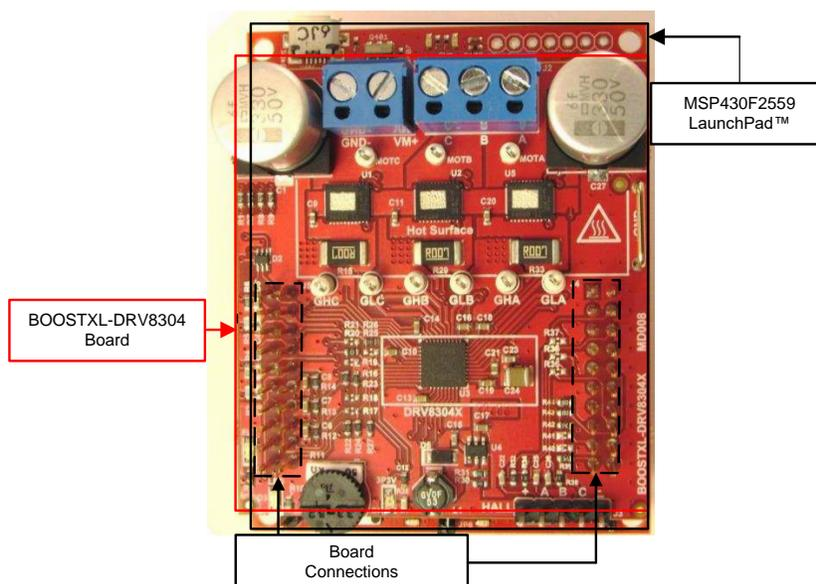

Figure 1. LaunchPad™ and BOOSTXL-DRV8304H EVM
- Step 2. Connect the BOOSTXL-DRV8304H connectors J1/J3 and J2/J4, onto the MSP430F5529 LaunchPad development kit (see Figure 1).